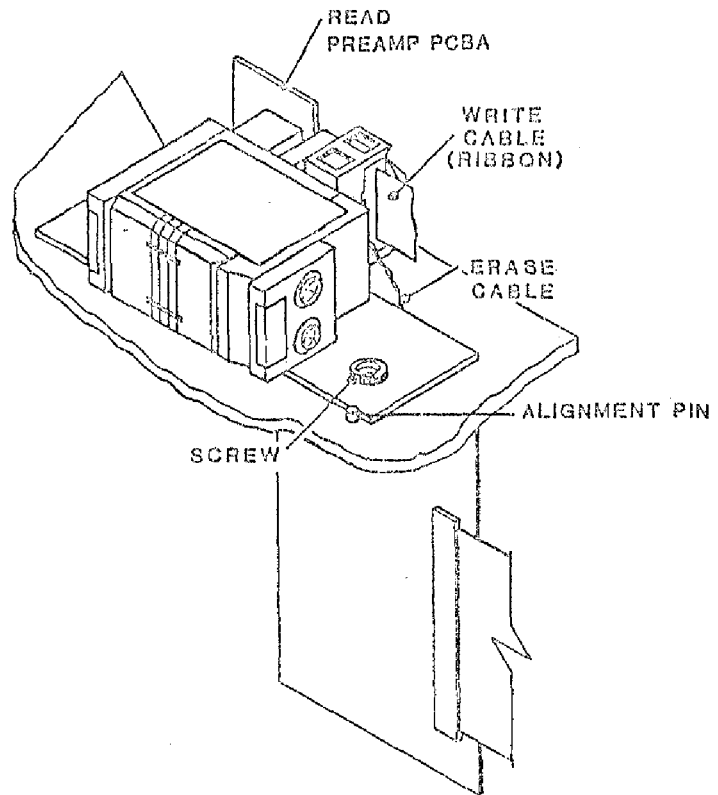

Figure 5-27.
5.3.33 MAGNETIC HEAD ASSEMBLY (Figure 5-27)